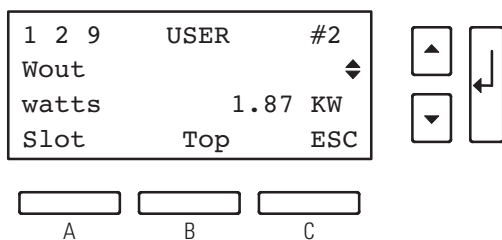

Figure 55. Typical Front Panel Display
Figure 55 shows an example of the front panel display. The numbers in the upper left corner (1 2 9 in Figure 55) indicate the menu level. The word in the top center (USER) is the security level.
- In Figure 55, Slot (button A) lets you observe the operation of a specific power module (the module in slot #2, in this example) or the overall system (slot #0).